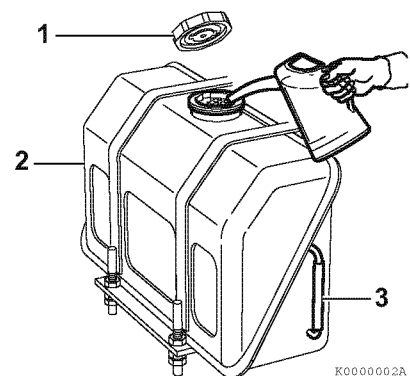

Figure 4-3
1. Clean the area around the fuel cap (1, **Figure 4-3**).
2. Remove the fuel cap (1, **Figure 4-3**) from the fuel tank (2, **Figure 4-3**).
3. Observe the fuel level sight gauge (3, **Figure 4-3**) and stop fueling when the gauge shows the fuel tank is full. Never overfill the fuel tank.
4. Replace the fuel cap (1, **Figure 4-3**) and hand tighten. Over-tightening the fuel cap will damage it.